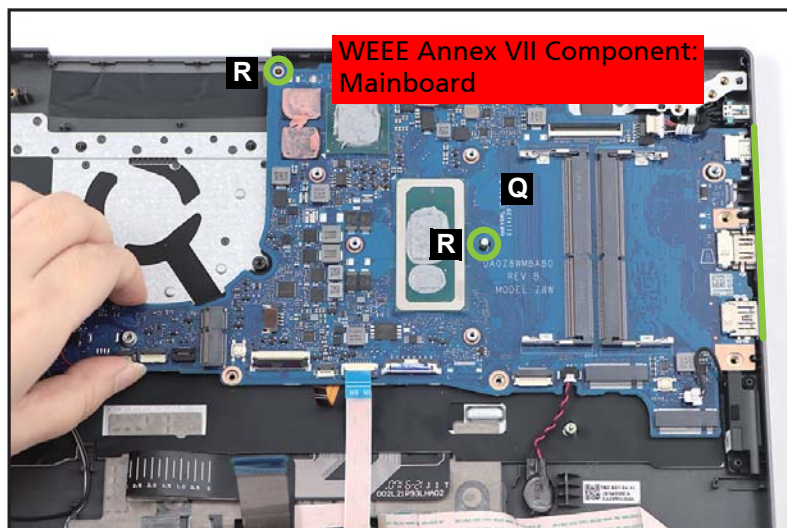

Figure 1-40. Mainboard Removal
14. Release the mainboard (Q) from the I/O ports slots and guide pins (R) on the top assembly (Figure 1-40). Then remove the mainboard.